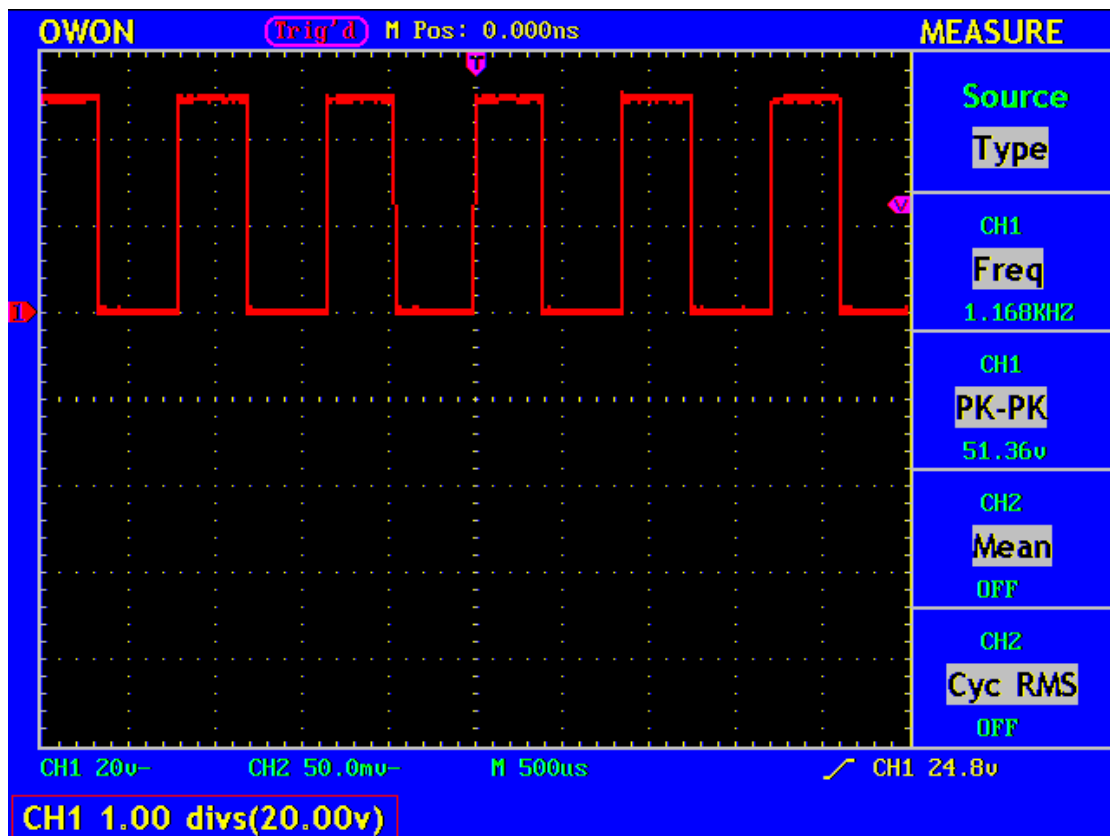

Fig. 27 Information about Vertical Position
3. When the vertical position of the channel wave form is adjusted, the screen shows the information concerning the vertical position at the lower left corner (see Fig.27).